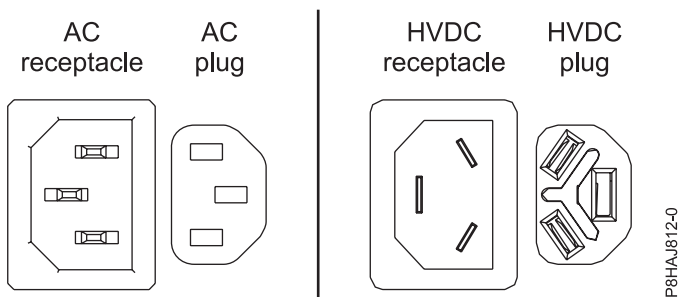
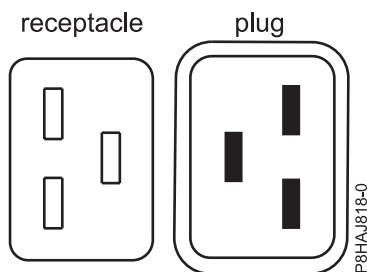
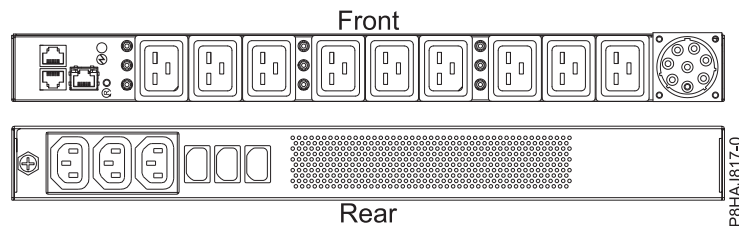

Figure 38. AC and HVDC connectors
Figure 39. Connectors for the 8408-44E system
Figure 40. PDU for the 8408-44E system
Figure 38 shows the supported alternate current (AC) and high voltage direct current (HVDC) connectors. Figure 39 and Figure 40 show the supported connectors and power distribution unit (PDU) for 8408-44E.